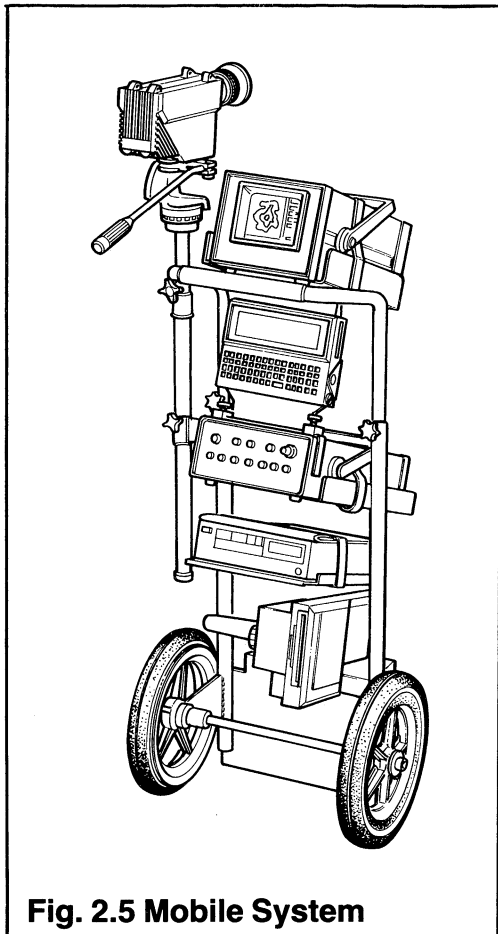

Fig. 2.5 Mobile System
- (a) **Mobile System.** The transport cart (optional) is a lightweight two wheeled cart designed for easy transportation of the Thermovision® 800 system. It has the advantage of providing a mobile yet stable base so that the Thermovision® 800 system can be operated either on the cart or alternatively, the scanner may be removed from the cart and operated separately using a fixed tripod. The transport cart has a position to mount the Control Unit and Monitor and compartments are fitted to enable the operator to transport Polaroid films, recording camera, battery power packs and video equipment. The cart has a telescopic handle that may be retracted to enable the complete equipment and cart to be easily transported. Figure 2.5 shows the transport cart with the equipment fully installed.